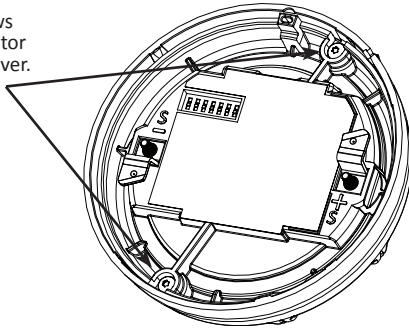

FIGURE 7: Removing Detector Cover (PAD100-PD only)
3. Remove cover from detector by removing the two screws (T10) on back of detector (FIGURE 7).